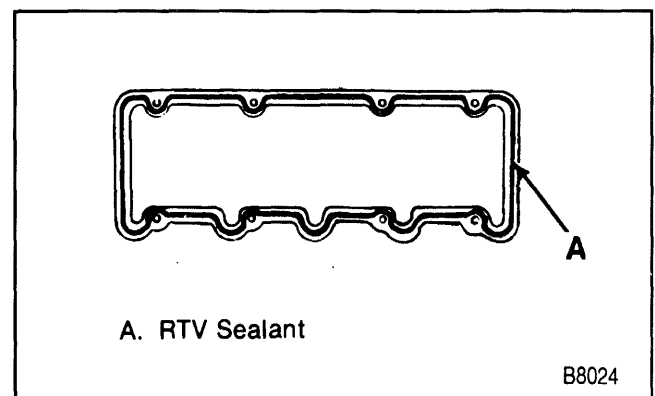

Figure 10—Applying Sealant to the Rocker Arm Cover
Install or Connect (Figure 10)
- Apply a 5-mm (3/16-inch) bead of RTV sealant (GM P/N 1052915) or equivalent to the rocker arm cover, inboard of the bolt holes. Refer to figure 10. The sealer must be wet to the touch when the bolts are torqued.